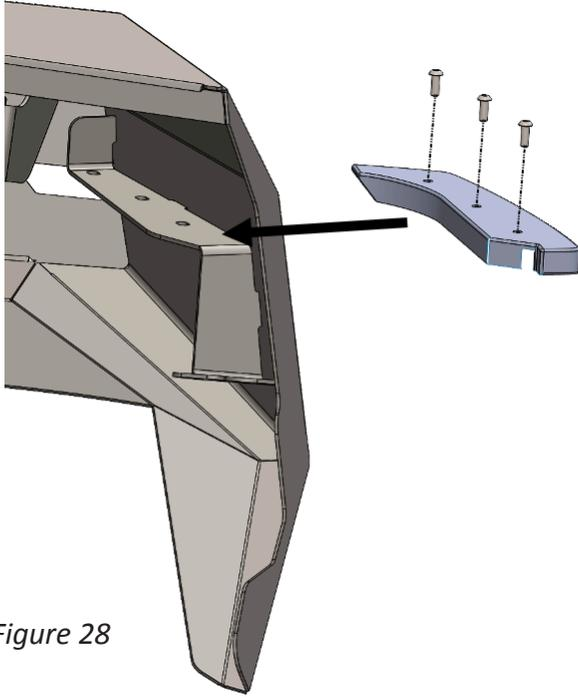

Figure 28
24. Install the Quake LED turn signals (61827 and 61828) into the driver and passenger side fenders (22767 and 22768) using the three (3) provided 10mm button head bolts. If installing rock lights in your fenders, do so now using the manufacturers hardware. Figure 28.